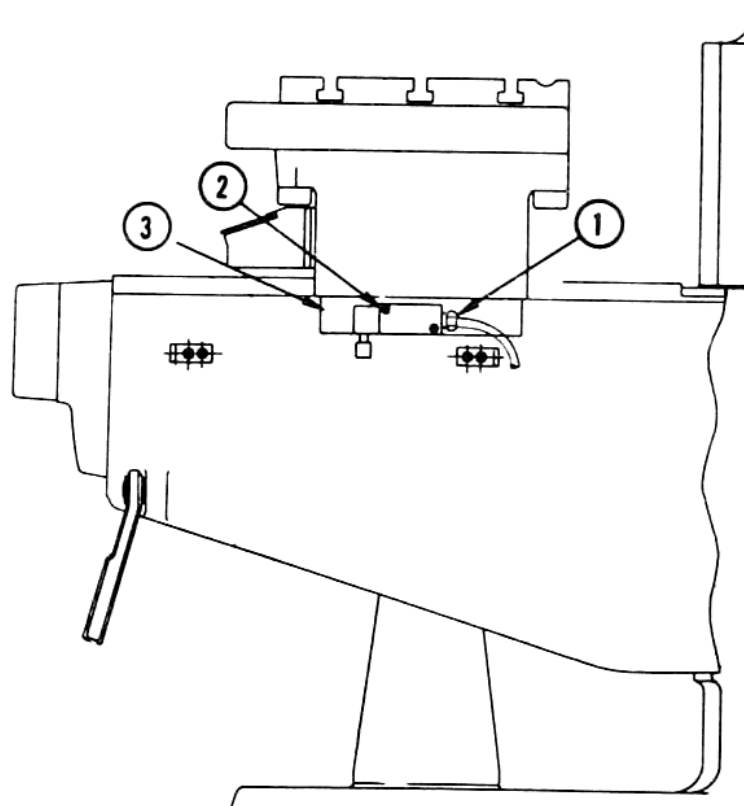

Figure 10-7 Y-Axis Limit Switch Installation
##### 10.5.2 Y-Axis Limit Switch Replacement—Figure 10-7
2. Unscrew the knurled nut (1, Figure 10-7) on the electrical cable and disconnect the cable from the microswitch.
3. Loosen the two socket head capscrews (2) and remove the microswitch from the down strap (3).